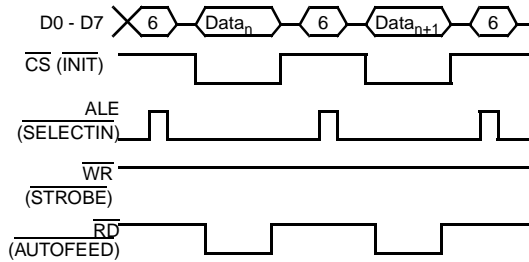

Figure 59: Reading Gain and Offset Coefficients through the DataPort (μP mode)
from the LM9830 in a continuous stream. First, write to register 3 to set what the data is (gamma or offset/gain) and what color (red, green, or blue) the data is for. Then write to registers 4 and 5 to set the initial address (usually 0), and the R/W mode (R in this case). To read data from the DataPort, the DataPort address (6) needs to be inserted before every read to prefetch the data from the external SRAM. The timing is shown in Figure 59. Note that this applies *only* to offset and gain coefficient reads; the gamma table may be read with or without the additional address writes. The DataPort Address stored in registers 4 and 5 will be automatically incremented after every read (if reading gamma data) or every second read (if reading offset/gain coefficient words).